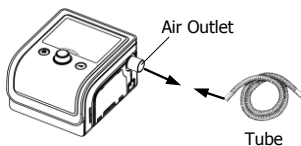
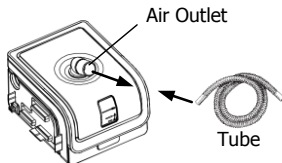

Fig. 11-4
Fig. 11-5
(1) Connect one end of the tube to the air outlet of the main device, as shown in Fig. 11-4. If the main device is used with a humidifier, connect one end of the tube to the air outlet of the humidifier, as shown in Fig. 11-5.